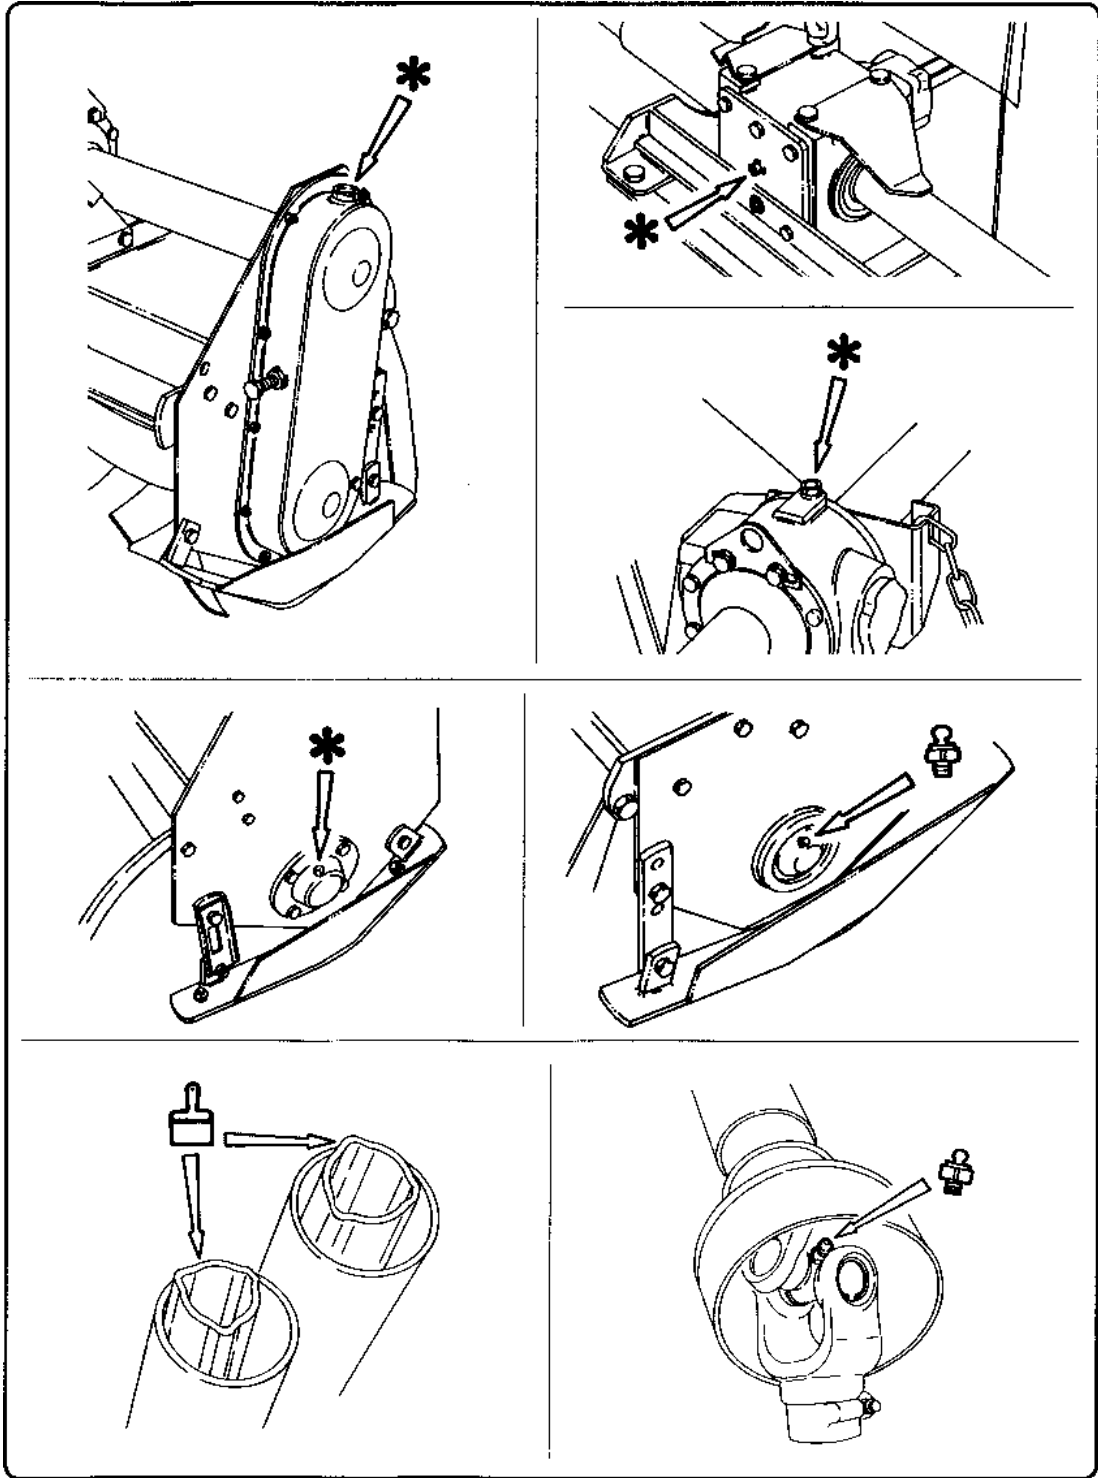

fig. 7.6.1
7.6 – Lubricating and greasing points fig. 7.6.1 and 7.6.2